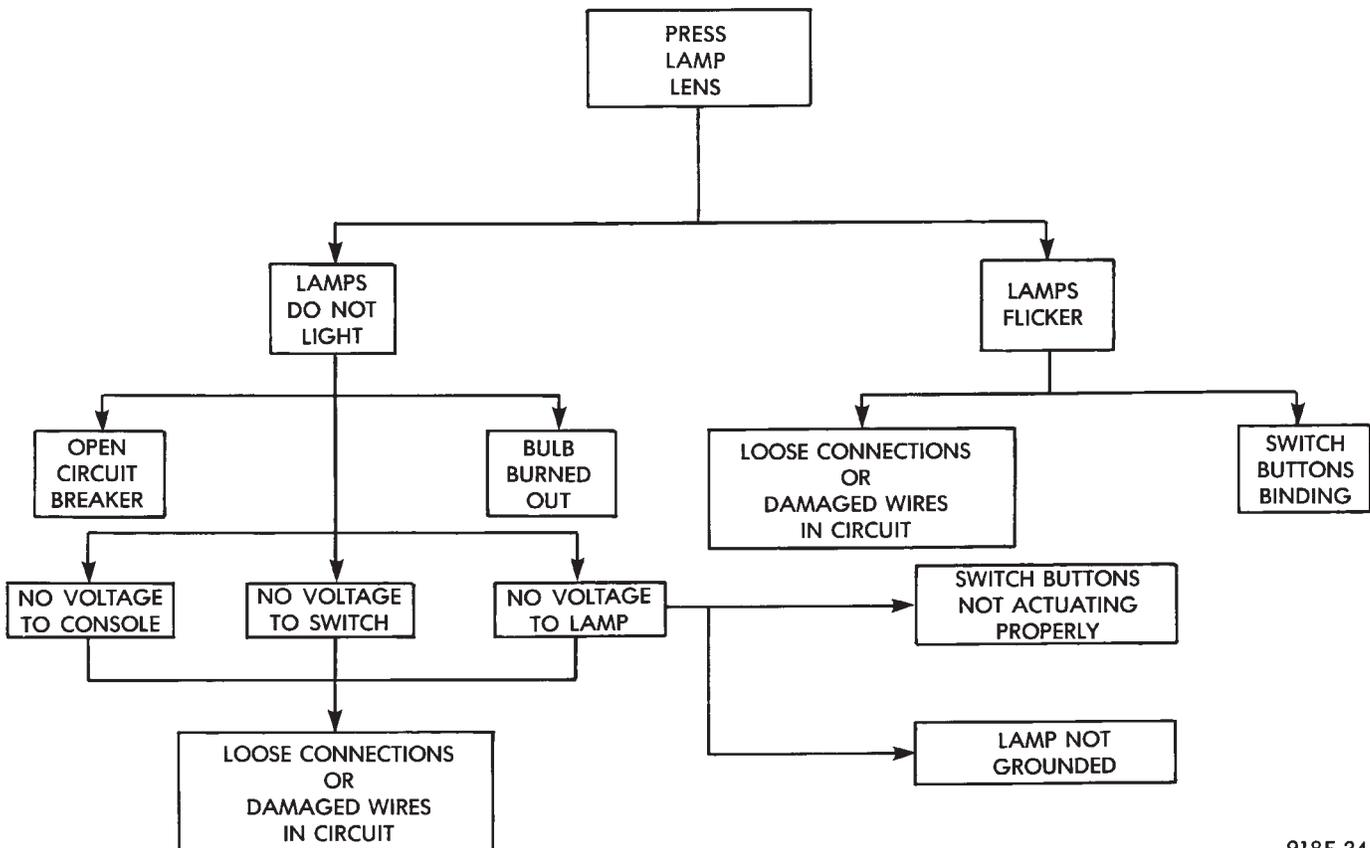

Fig. 12 Gauge Resistance
(1) Remove the gauge.
(2) Check for ignition voltage and ground to the gauge.
(3) With the ignition key in the OFF position, replace gauge. Turn the ignition key to the ON position. To test oil pressure gauge engine must be running. When testing oil or temperature gauge the engine should be at normal operating temperature. Record the gauge position.
(4) Remove gauge and record the resistance between the sending unit pin and the gauge ground pin. When checking gauges, it is important to have the same engine temperature and speed when noting gauge position. The time between gauge reading and measuring should be kept to a minimum.
(5) Resistance Chart (Fig. 12), is general guidelines for checking the gauge position against the sending unit resistance.